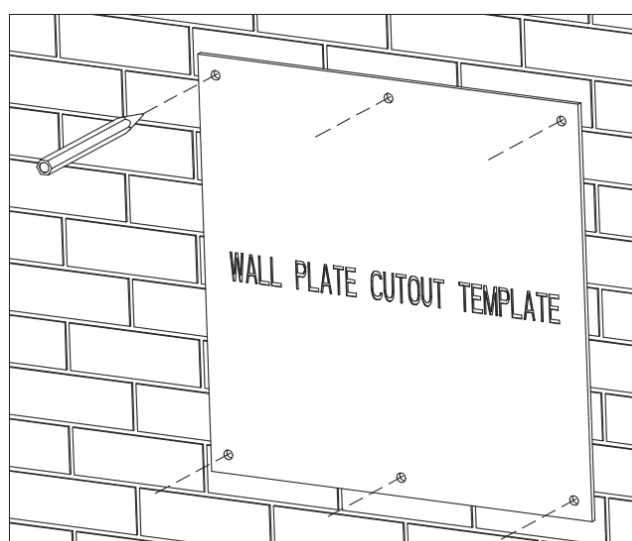

Figure 4.7 Determine the punch position
- (1) Use the punch positioning plate in the packaging box to determine the punch position. As shown in Figure 4.7. Level the holes with a level ruler and mark it with a marking pen.